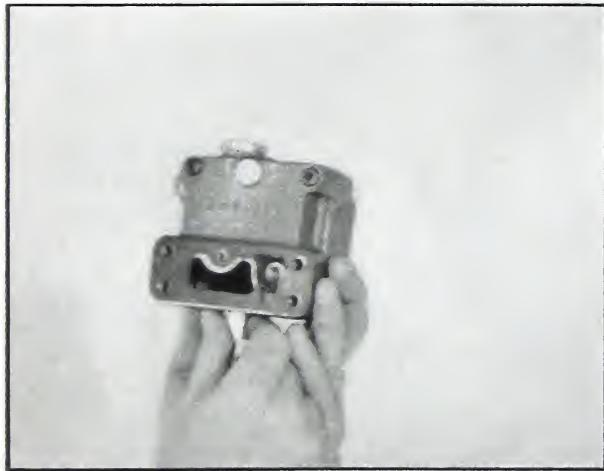

Fig. 5-276. Check float for clearance
14. Check to see that the float does not hit either the top or bottom of the float chamber when assembled. There should be approximately $\frac{1}{8}$ inch clearance at top. Fig. 5-276. As shown in Fig. 5-276, the top of the float chamber is at the finger tips.